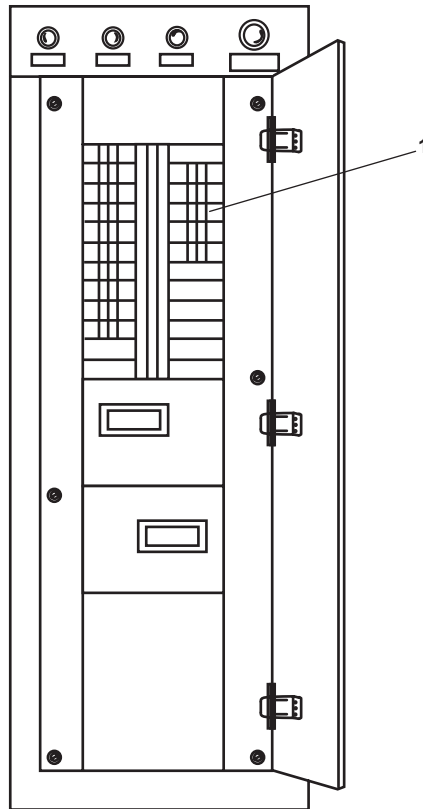

Figure 2. Load Center Distribution Panel
2. At the engine room load center distribution panel, set the 120V DISTRIBUTION PANEL No. 4 circuit breaker (figure 2, item 1) to ON.